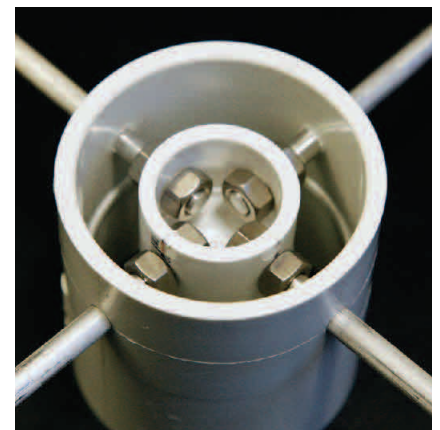

Figure 2 — The completed feed-point assembly.
- 3) Drill or punch four ¼-inch holes evenly spaced at 90° to each other in the side of the 1-inch PVC cap so the opposite holes align and are all in the same plane. The holes should be roughly midway between the open and closed end. Use Figure 2 as a reference for how the completed feed point looks.
Figure 2 shows the assembly with a ¾-inch end cap, but I found that a 1-inch end cap provides better separation between converging elements and is easier to assemble.